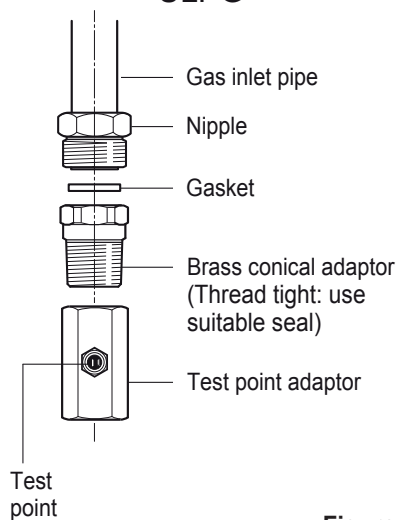

Figure 10
- Before connecting the appliance to the gas main, mount the brass conical adaptor onto the gas inlet pipe, upon which the gasket has been placed (figs. 10 - 11). Conical adaptor and gasket are supplied with the appliance (packed with conversion kit for use with Natural gas or ULPG).
- For ULPG models the gas supply is connected to the test point adaptor which is supplied with the appliance (fig. 10) and ensure that the supply pressure is regulated to 2.75 kPa.
- If the cooker is suitable for use with Natural gas and must be converted for use with ULPG, before connecting to the gas mains remove the appliance gas regulator and replace with test point adaptor (see figs. 10 - 11).
- If the cooker is suitable for use with ULPG and must be converted for use with Natural gas, before connecting to the gas mains remove the appliance test point adaptor and replace with gas regulator (see figs. 10 - 11).